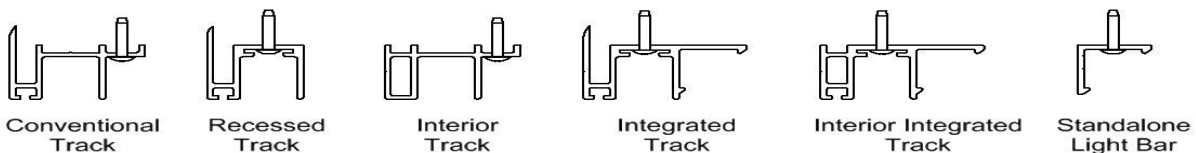

Fig. 2
- Position the track between the header and the bottom of the compartment. Make sure the bottom of the track touches the bottom of the compartment. The finishing flange should be flush against the skin of the vehicle. Optional track configurations are shown in Fig. 2.